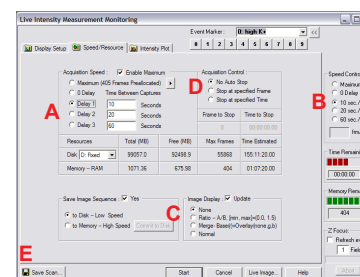

fig.5
11. Click **Speed/Resource** Tab to set up time-lapse delay (**fig.5**)